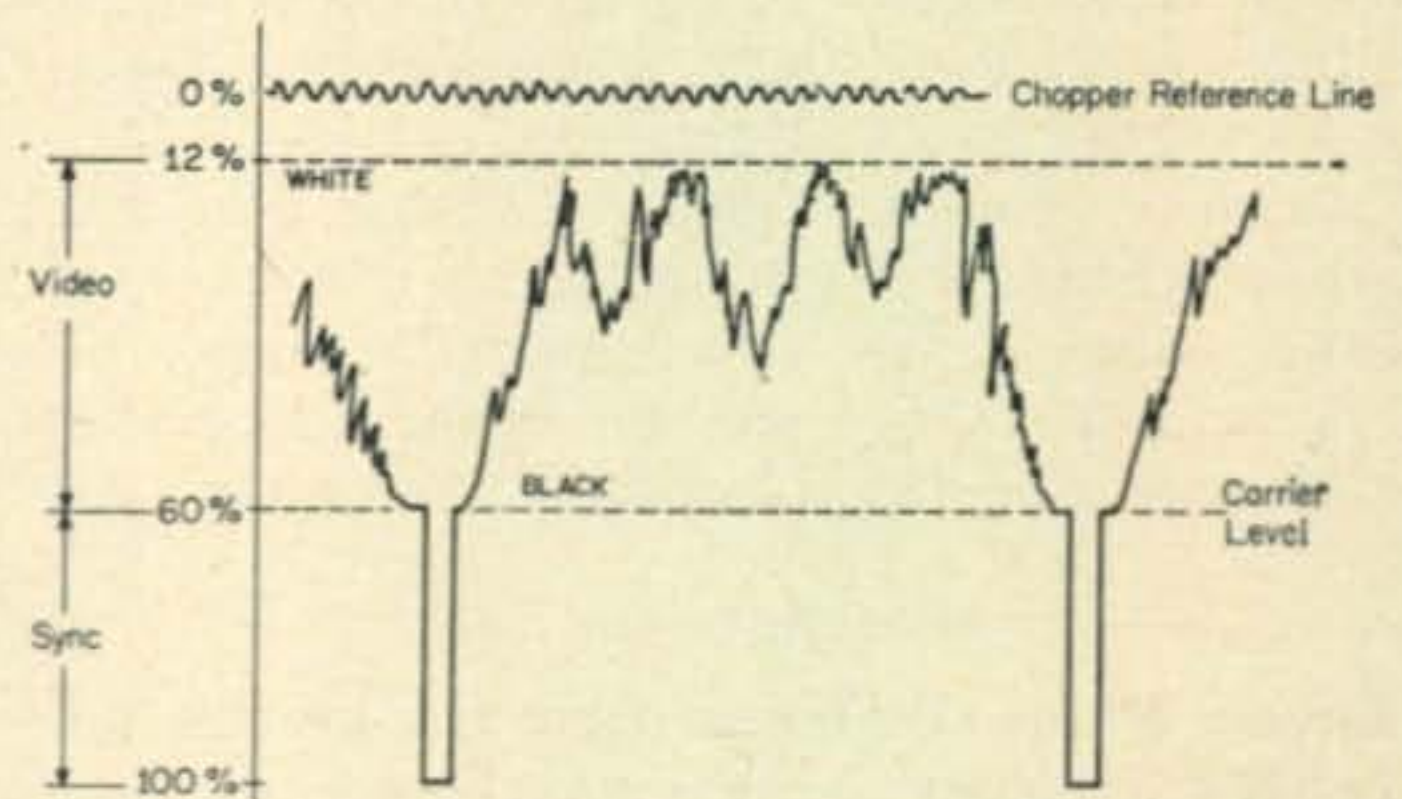

Fig. 1—Oscilloscope trace of interlace scanning video signal.
Fig. 1—W8HHS's tunnel diode v.h.f. oscillator. F.m. can be achieved by inserting a mike at J_1 where indicated. Both resistors are $\frac{1}{2}$ watt. (Thanks to VHFER for the circuit).
Tunnel Diode Oscillator: Here is a quickie project for dyeowdie addicts which will always be useful around the v.h.f. shack. As outlined in fig. 1, this little oscillator circuit will tune from 49 to 76 mc, making itself available for converter and antenna adjustments when placed several hundred feet from the antenna system (especially when local signals are not available). If you wish to hit two meters, dust off the grid dipper and trim up the L_1 - C_1 combination. This handy gadget can be built into a $2\frac{3}{4}$ " \times $2\frac{1}{8}$ " \times $1\frac{5}{8}$ " aluminum Minibox, equipped with a whip antenna and turned on and off with a small slide switch. A penlite cell with appropriate clip would be just the ticket for the d.c. supply. Try it.
Another interesting hint comes from K3ADS of Bryn Mawr, Pa., who is just about ready to go on 440.001 mc with 40 watts of video signal power (crystal controlled). In his letter Larry stresses the importance of proper video signal composition. A good way to accomplish this is to monitor your video output on a scope (sweep rate 7587 c.p.s.). A trace should be obtained similar to the one shown in fig. 1, if you are
cuit shown in fig. 1. All that remains now, is to wire in the selector switch, S_4 . A step by step procedure is outlined below because this involves modifying some of the original circuitry. The switch contacts, as referred to, are shown in fig. 2.
3. Connect the remaining contact of S_{4A} (RTTY) to pin 6 of V_{5B} (fig. 1).
6. Connect the remaining contact of S_{4B} (RTTY) to pin 1 of V_{5A} (fig. 1).
9. Connect the RTTY contact of S_{4C} to the B plus line of V_{5A} and V_{5B} (fig. 1).